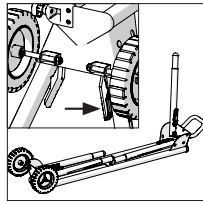

Fig. 2
- Squeeze the leg locking lever **(Fig. 2)** to release the locking pin and deploy the leg. Repeat on all 4 legs.